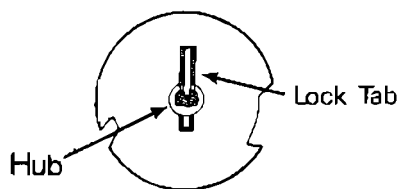

Fig. 6
2. Locate the hub at the center of the cam (See Fig. 6).
3. With the hub facing you, slowly slide the cam onto the front shaft of the vend motor while depressing the lock tab. (See. fig.6).